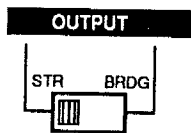

Figure 4
- B. Make sure the "STR/BRGD" switch is in the "STR" position, unless you are only planning to install to sub-woofers and "bridge" the amplifier into mono. (see Figure 4)